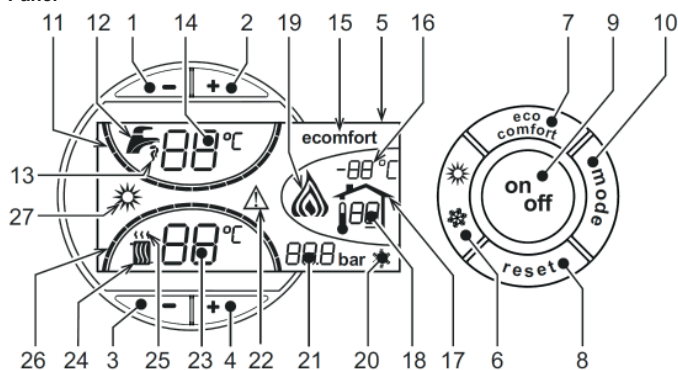
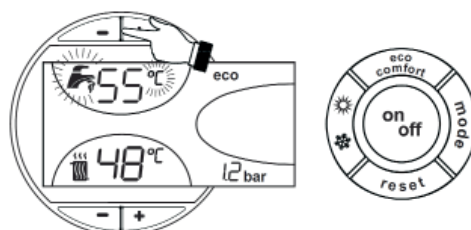
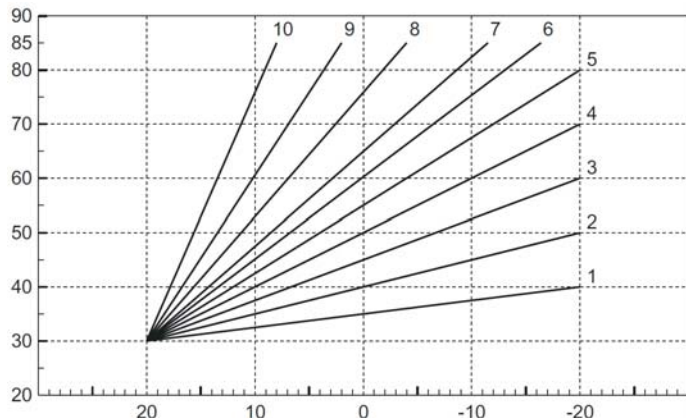

fig.1 – Control panel
fig.11
fig.14 - Compensation curves
A heating demand (generated by the Room Thermostat or Remote Timer Control) is indicated by flashing of the hot air above the radiator (details 24 and 25 - fig.1).
The heating graduation marks (detail 26 - fig.1) light up as the heating sensor temperature reaches the set value.
A DHW demand (generated by drawing domestic hot water) is indicated by flashing of the hot water under the tap (details 12 and 13 - fig.1).
The DHW graduation marks (detail 11 - fig.1) light up as the DHW sensor temperature reaches the set value.
The operation of the accumulator (heating and maintenance in temperature) can be deactivated by the user. In such a case, there is no sanitary hot water supply. When the accumulator is activated (default option), the COMFORT symbol appears on the display (15 - fig.1); if it is deactivated, the ECO symbol (15 - fig.1) is displayed. To deactivate the heater and set the ECO mode, press the eco / comfort key (7 - fig.1). To return to COMFORT mode, press the eco / comfort key again (7 - fig.1)
Press the on/off button (detail 9 - fig.1) for 1 second.
The antifreeze system remains activated. To relight the boiler, press the on/off button (detail 9 - fig.1) again for 1 second.
Press the summer/winter button (detail 6 - fig.1) for 1 second.
The display activates the Summer symbol (detail 27 - fig.1): the boiler will only deliver domestic hot water. The antifreeze system remains activated.
To deactivate the Summer mode, press the summer/winter button (part. 6 - fig.1) again for 1 second.
Use the heating buttons (details 3 and 4 - fig.1) to adjust the temperature from a min. of 30°C to a max. of 80°C.
Use the DHW buttons -/+ (details 1 and 2 - fig.1) to adjust the temperature from a min. of 10°C to a max. of 65°C.
When the optional external probe is installed the control panel display (detail 5 - fig.1) shows the actual outside temperature read by the probe. The boiler control system operates with "Sliding Temperature". In this mode, the temperature of the heating system is adjusted according to the outside weather conditions, in order to ensure high comfort and energy saving throughout the year. In particular, as the outside temperature increases, the system delivery temperature is decreased according to a specific "compensation curve".
With Sliding Temperature adjustment, the temperature set with the heating buttons -/+ (details 3 and 4 - fig.1) becomes the maximum system delivery temperature. It is advisable to set a maximum value to allow system adjustment throughout its useful operating range.
Press the mode button (detail 10 - fig.1) once to display the actual compensation curve (fig.11), which can be modified with the DHW buttons (details 1 and 2 - fig.1).
Press the heating buttons (details 3 and 4 - fig.1) to access parallel curve offset (fig.14), modifiable with the DHW buttons (details 1 and 2 - fig.1).
Press the **mode** button (detail 10 - fig.1) again to exit parallel curve adjustment mode.
Also, the control panel display (detail 5 - fig.1) shows the actual room temperature detected by the Remote Timer Control.
Eco/Comfort selection	On disabling DHW from the Remote Timer Control menu, the boiler selects the Economy mode. In this condition, the button 7 - fig.1 on the boiler panel is disabled On enabling DHW from the Remote Timer Control menu, the boiler selects the Comfort mode. In this condition it is possible to select one of the two modes with the button 7 - fig.1 on the boiler panel.